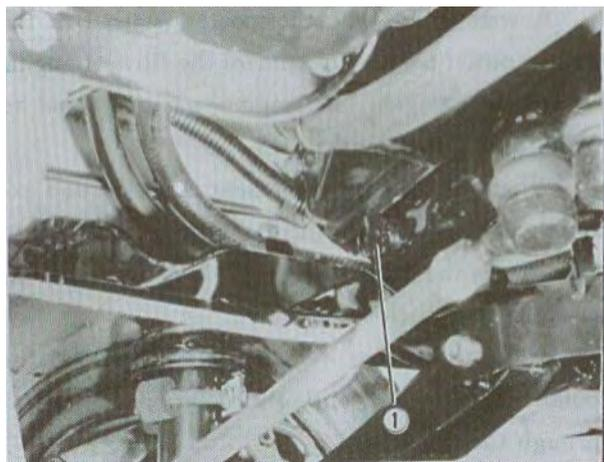

FIG.6-5 (see fig.7-6 of service manual for HFJ6351B)
- 1 ● Coolant Drain (FIG.6-5)
- (1) Remove Radiator Cap.
- (2) Remove reservoir tank, and drain coolant.